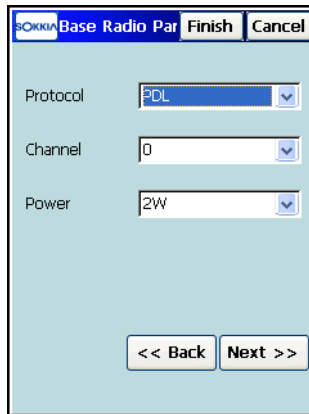

Figure 4-15. UHF Modem
- For HiPerXT UHF modem, set the protocol, channel, and power (Figure 4-15 on page 4-12).